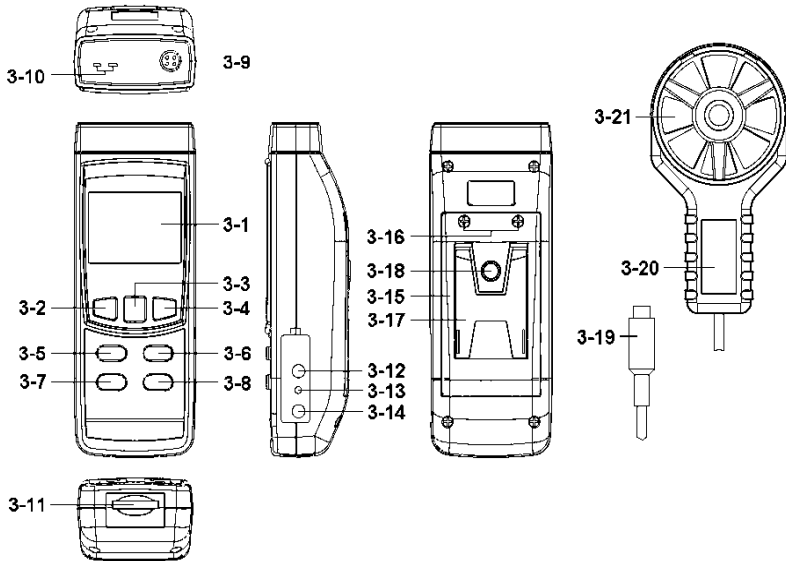

Fig. 1
1) Power on the meter by pressing the " Power button " (3-2, Fig. 1) > 1.5 seconds continuously.
Pressing the " Function Button " (3-6, Fig. 1) > 1.5 seconds continuously, the Display will show the following text in sequence :
Until the Display show the desired mode (Function), just release the " Function Button " (3-6, Fig. 1), the meter will execute this function with default.
- b.. Plug the " Probe Plug " (3-19, Fig. 1) into the " Probe Input Socket " (3-9, Fig. 1).
- c. Hold the " Probe Handle " (3-20, Fig. 1) by hand and let the " Probe Head " (3-21, Fig. 1) face against the measuring air flow source, then the Display (3-1, Fig.1) will show air velocity. At the same time, the lowe Display will show the air temperature value.
If intend to change the Air velocity unit, press the Unit Button " (3-5, Fig. 1) > 1.5 seconds, the unit will change from m/s to Km/h, mph, Knot, FPM in sequence, until the desired unit is present on the Display release the " Unit Button ", the select unit will save into the memory with default.
- b. Not install the " Anemometer probe Plug " (3-19. Fig 1) into the " Probe Input Socket " (3-9 Fig. 1)
- b. Plug the Thermocouple Temp. Probe (Type K Temp. probe or Type J Temp. probe, optional) into " Type K/J Probe Input Socket " (3-10, Fig. 1)
During the measurement, press the " Hold Button " (3-3, Fig. 1) once will hold the measured value & the LCD will display a " HOLD " symbol.
- 1) The data record function records the maximum and minimum readings. Press the " REC Button " (3-4, Fig. 1) once to start the Data Record function and there will be a " REC " symbol on the display.
- a) Press the " REC Button " (3-4, Fig. 1) once, the " REC MAX " symbol along with the maximum value will appear on the display.
- b) Press the " REC Button " (3-4, Fig. 1) again, the " REC MIN " symbol along with the minimum value will appear on the display.
- c) Press the " REC Button " (3-4, Fig. 1) again, the " MIN " symbol will be appeared, LCD only show the " REC " symbol, the meter start the Data Record function again.
- 3) To exit the memory record function, just press the " REC Button " (3-4, Fig. 1) > 1.5 seconds continuously. The display will revert to the current reading.
- 1) After power ON, the " LCD Backlight " will light automatically. During the measurement, press the " Backlight Button " (3-2, Fig. 1) once will turn OFF the " LCD Backlight " .
Prepare a " SD memory card " (1 G to 16 G, optional), insert the SD card into the " SD card socket " (3-11, Fig. 1). The front panel of the SD card should face against the the down case.
Press the " LOG Button (3-8, Fig. 1) > 1.5 seconds continuously, the lower LCD will show the text of " Log " (or show " Log " with the Temp. value alternately), then " REC " symbol will flashing per sampling time, at the same time the measuring data along the time information will be saved into the memory circuit.
During execute the Datalogger function, if press the " LOG Button " (3-8, Fig. 1) once will pause the Datalogger function (stop to save the measuring data into the memory circuit temporally). In the same time the " REC " symbol will stop flashing, the lower LCD will show the text of " Log " (or show " Log " with the Temp. value alternately).
If press the " LOG Button " (3-8, Fig. 1) once again will execute the Datalogger again, the " REC " symbol will flashing.
During execute the Datalogger function, press the " LOG Button (3-8, Fig. 1) > 1.5 seconds continuously again will finish the Datalogger function, the " Log " text will be disappeared and finish the Datalogger. function.
Press the " LOG Button (3-8, Fig. 1) > 1.5 second , the lower LCD will show the " Position no. " (or show the Position no. with the Temp. value alternately), then press the " LOG Button " (3-8, Fig. 1) once, the " REC " symbol will flashing once and Beeper will sound once, at the same time the measuring data along the time information will be saved into the memory circuit.
During execute the Manual Datalogger, it can use the " ▲ Button " (3-5, Fig. 1) or " ▼ Button " (3-7, Fig. 1) to set the measuring position (1 to 99, for example room 1 to room 99) to identify the measurement location , the lower Display will show P x (x = 1 to 99).
During execute the Datalogger function, press the " LOG Button (3-8, Fig. 1) > 1.5 seconds continuously again will finish the Datalogger function, the Position no. " PXX " will be disappeared and finish the Datalogger. function.
During the normal measurement (not execute the Datalogger), If press " Time Button " (3-6, Fig. 1)) once , the lower LCD display will present the time information of Year/Month, Date/Hour, Minute/Second and the Sampling time information in sequence.